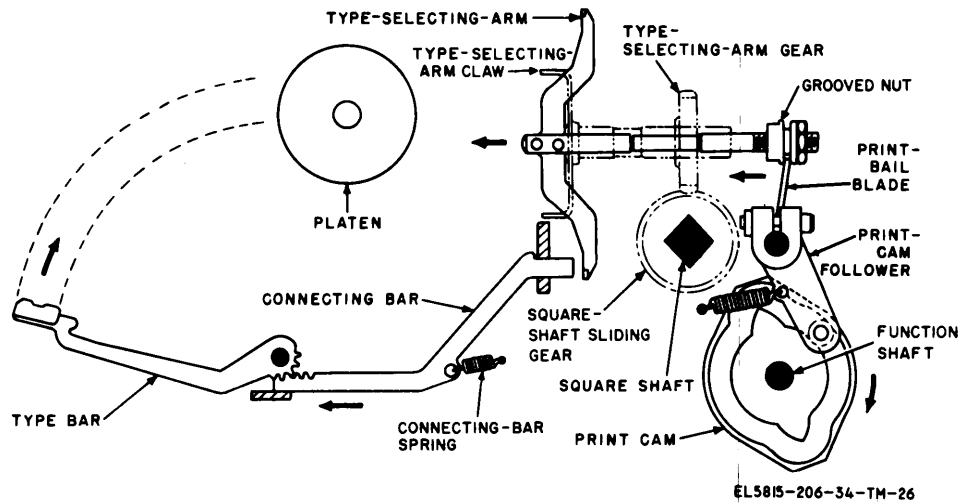

Figure 2-26. Printing mechanism.
*b. Printing of Selected Character.* Printing occurs immediately after rotation of the type-selecting arm is halted (a above). A lobe of the print cam (fig. 2-26) causes the print-cam follower to pivot counterclockwise, causing the print-bail blade to move forward sharply. The print-bail blade is engaged in the groove of the grooved nut on the shaft of the type-selecting arm. The type-selecting arm pushes the aligned connecting bar forward to cause the type bar to strike against the platen. The roller of the print-cam follower then moves to a low portion of the print cam, causing the type-selecting arm to return to the rearward position. The print cam is firmly fastened to the function shaft (fig. 2-27) and turns 1/2 revolution each time the transfer-lever latch tripping cam trips the transfer lever (para 2-19b).
2	Square-shaft stop arm and type-selecting arm. Print cam starts ½ revolution (fig. 2-26).